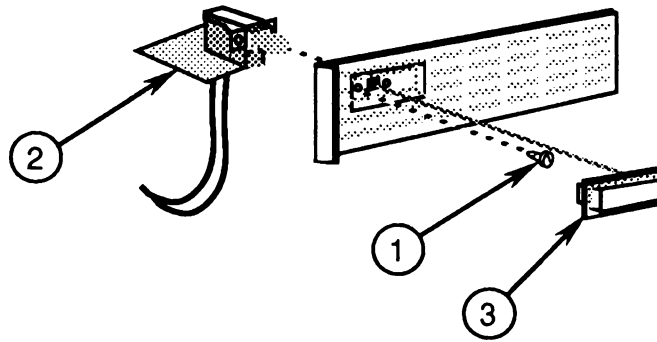

FIGURE 48
- a) Replace the screw (Figure 48, #1) that secures the on/off switch to the plastic bracket. The small switch PCB (Figure 48, #2) is on the bottom as you insert the switch unit into the plastic bracket.
- b) Replace the customer's switch button (Figure 48, #3) on its shaft.